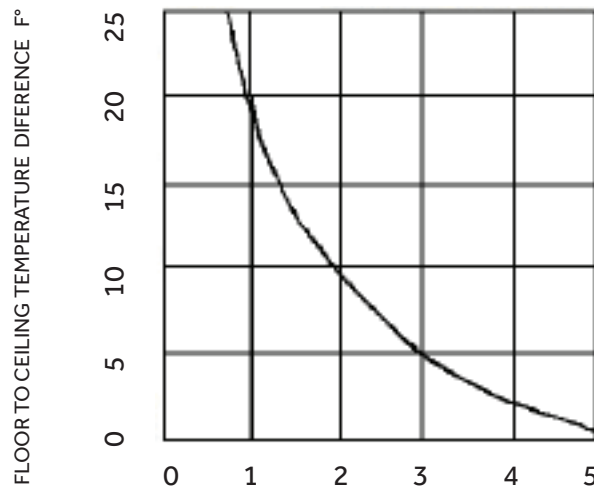

FIGURE 2
STEP 3 Select a desired air volume turnover per hour (VTOH). Experience indicates that 3 to 4 VTOH results in optimum operation of the AFX AeroFlo. For reference, **Figure 2** presents an empirically developed relationship of floor to ceiling temperature difference as a function of volume turnover per hour for a typical structure. It should be noted that very high or low ceilings, or high localized internal heat gains could cause variations in the distribution shown.
NOTE: Cost considerations may warrant an alternate selection of a Model AFX-260 with (2) 5 HP motors and an air delivery of 52,000 SCFM, thus yielding 300 VTOH. As shown in Figure 2, there is only a small increase in the floor to ceiling temperature difference for a typical building when reducing the volume turnover per hour from 3 to 2.89.